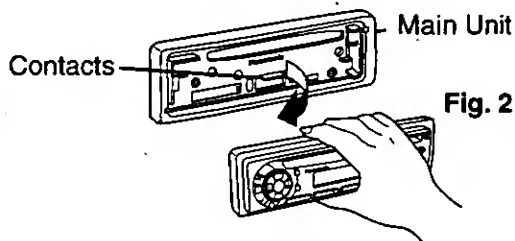

Fig. 2
- ③ Remove the removable face plate by pulling on the right side of the unit. (⇒ Fig. 2) Place the removable face plate in a supplied case.